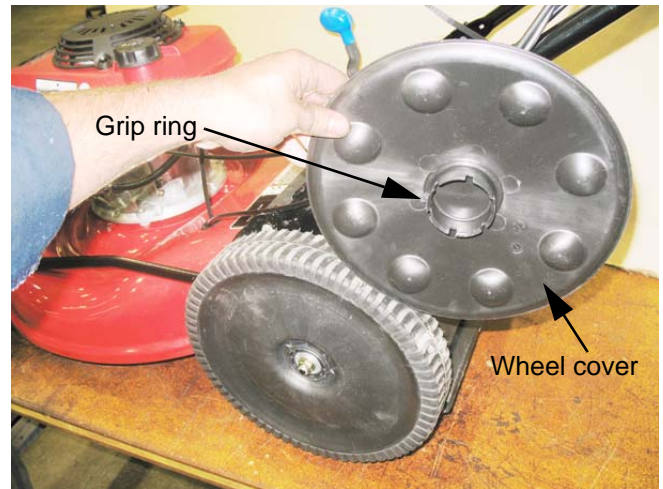

Figure 6.20
2. The wheel cover is held to the rear wheel by a relatively small grip-ring, near the hub of the wheel. See Figure 6.20.